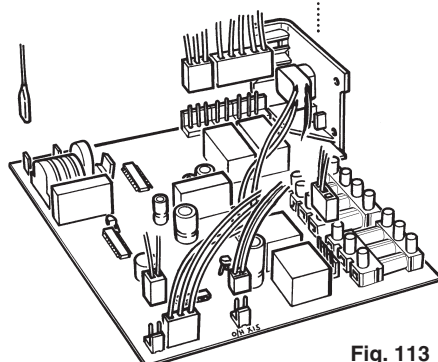

Fig. 113
6. Disconnect the plugs from the sockets on the circuit board (Fig. 113).